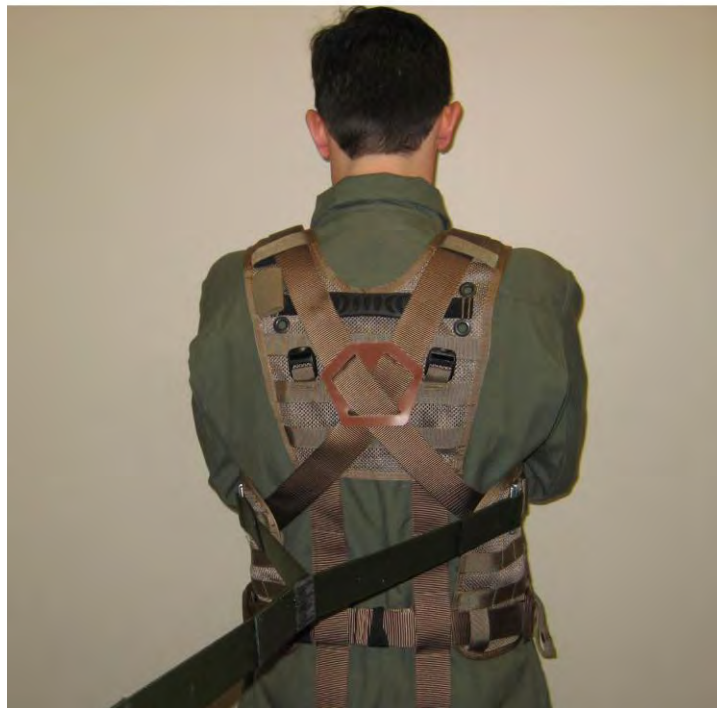

Fig. 1: Y-Strap Connection
- 1-6.9.2 To connect the Y-Strap to the JSAVES Harness, insert silver female portion of the Y-strap buckle into the black male portion located on the JSAVES harness (Fig. 1). The harness buckle exits the JSAVES vest base through the slit on both sides, under the arms (Fig. 2).